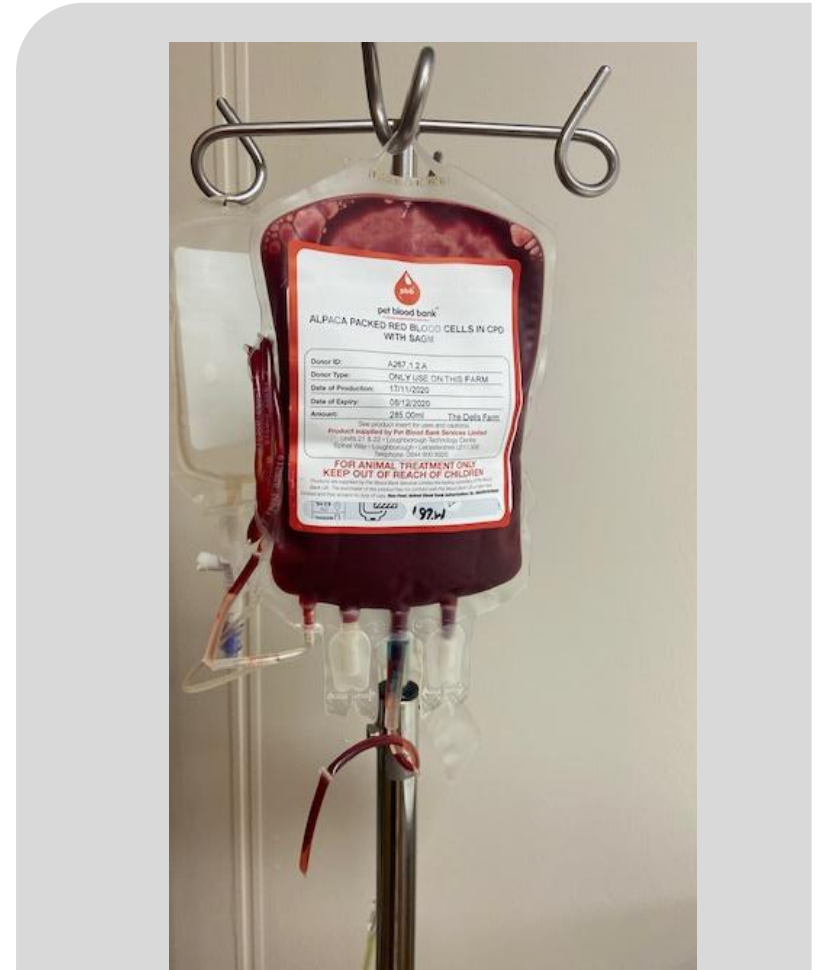

Fig. 1
- Hang the unit from the drip stand (Fig. 1).